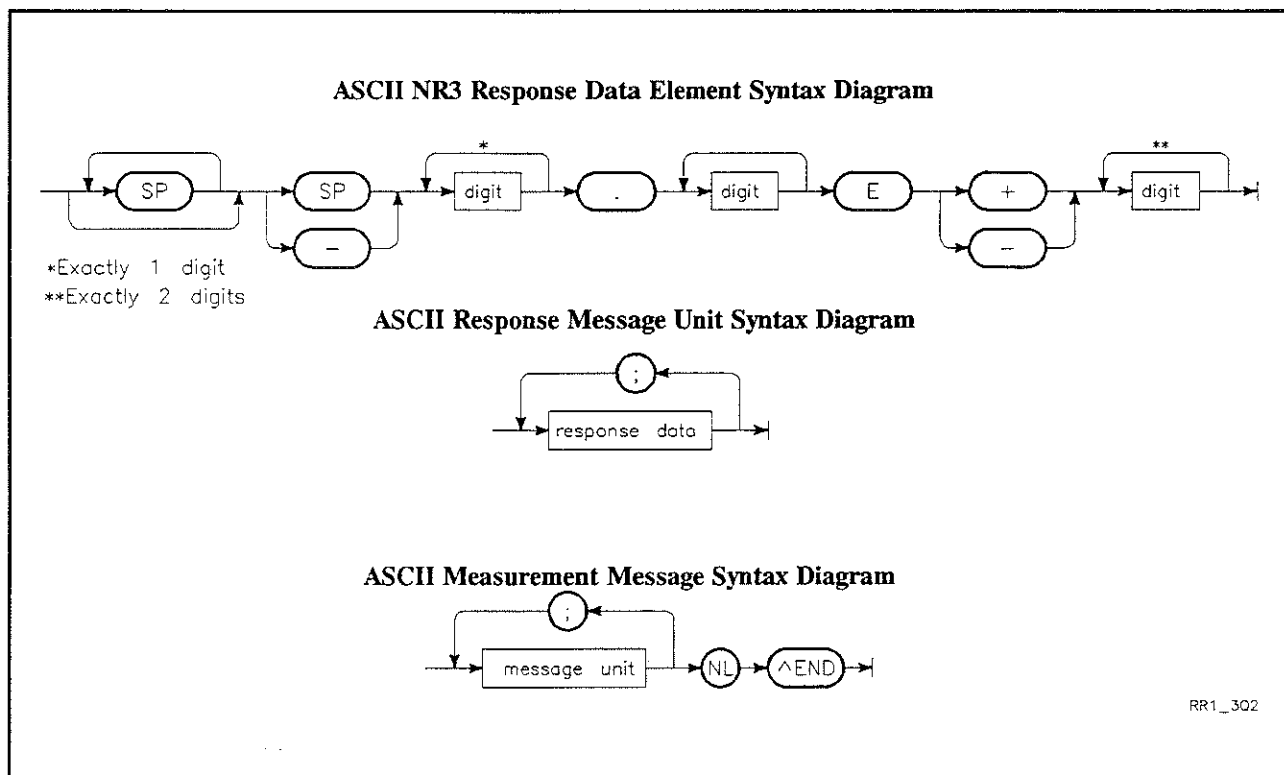

Figure 1-3. ASCII Measurement Result Syntax Diagrams
The ASCII measurement result format is used to transmit processed measurement data. To accommodate a wide range of values, the ASCII measurement results are formatted as shown in the syntax diagrams in *Figure 1-3*.
NOTES TO FIGURE 1-3:
3. RESPONSE DATA in the Message Unit syntax diagram is defined by the Response Data Element syntax diagram at the top of *Figure 1-3*.
4. MESSAGE UNIT in the Measurement Message syntax diagram is defined by the Response Message Unit syntax diagram in the middle of *Figure 1-3*.